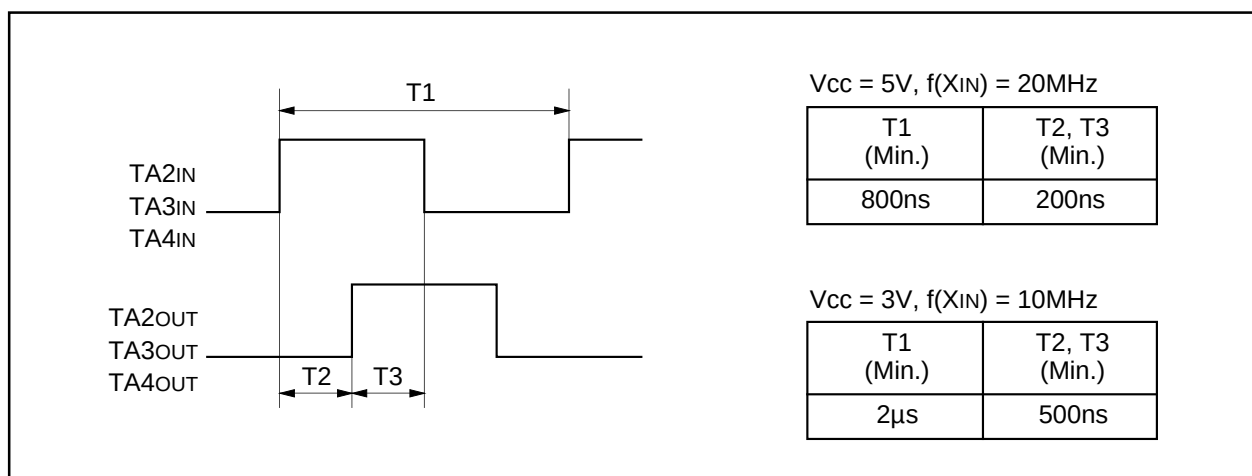

Figure 2.2.30. Standard of 2-phase pulses
- (3) Please note the standards for the differences between the 2 pulses used in the two-phase pulse signals input signals to the TAI_{IN} pin and TAI_{OUT} pin (i = 2, 3, 4), as shown in Figure 2.2.30.
- (4) When free run type is selected, if count is stopped, set a value in the timer Ai register again.